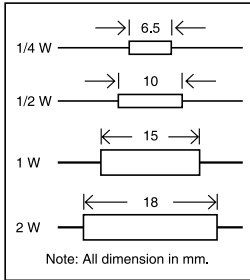

Fig. 37: Carbon resistor size and wattage relationship
5. Resistor wattage: The power that a resistor can safely dissipate (without burning) depends on its size. Typical sizes of carbon resistors for ¼ W, ½ W, 1 W and 2 W are 6.5 mm (0.25 inch), 10 mm (0.4 inch), 15 mm (0.6 inch) and 18 mm (0.7 inch) respectively, as shown in Fig. 37.